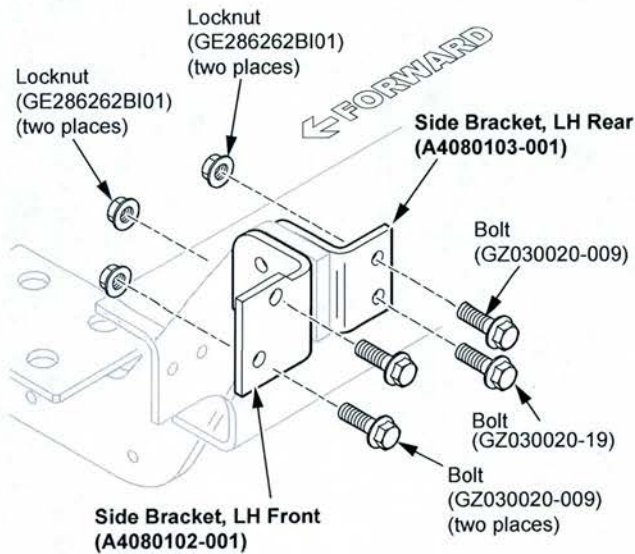

Figure 4
14. Install the new side bracket, LH front (A4080102-001) to the LH rail using two (GZ030020-009) bolts and two (GE286262BI01) locknuts (see Figure 4).
15. Install the new side bracket, LH rear (A4080103-001) to the LH rail using one (GZ030020-19) bolt and one bolt (GZ030020-009), with two (GE286262BI01) locknuts (see Figure 4).
16. Tighten the fasteners (GZ030020-19), (GZ030020-009) and (GE286262BI01) to 190 ft-lbs (258 N·m) of torque (see Figure 4).